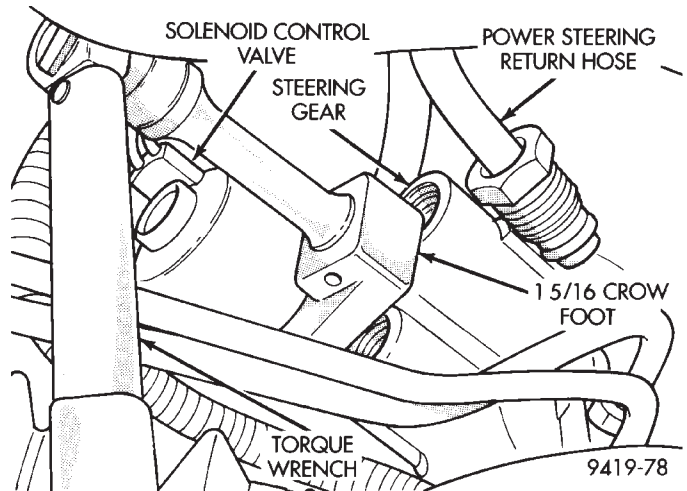

Fig. 11 Torquing Solenoid Control Valve Into Steering Gear
- (1) Inspect the O-ring seals on the solenoid control valve to be sure they are not damaged. If the O-rings are not damaged, moisten the O-rings using **only** fresh clean Mopar, Power Steering Fluid or equivalent.
- (2) Install the solenoid control valve into the steering gear by hand, until it is fully seated into the steering gear.
- (3) Using the 1 5/16 inch crow foot as shown in (Fig. 11) tighten the solenoid control valve to a torque of 14 N·m (124 in. lbs.).